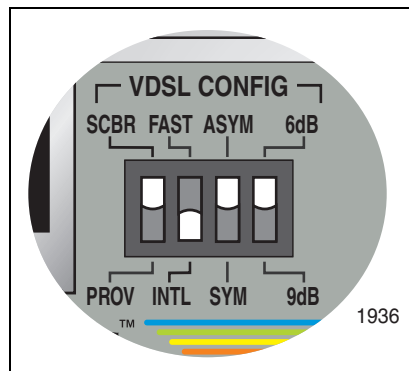

Figure 8. Configuring AT-MC606 Ethernet Extender for Subscriber Mode
4. Configure the right VDSL CONFIG switch (SCBR/PROV) to the SCBR position as shown in Figure 8.
1. Configure the right VDSL CONFIG switch (SCBR/PROV) to the SCBR position as shown in Figure 8, “Configuring AT-MC606 Ethernet Extender for Subscriber Mode” on page 34.